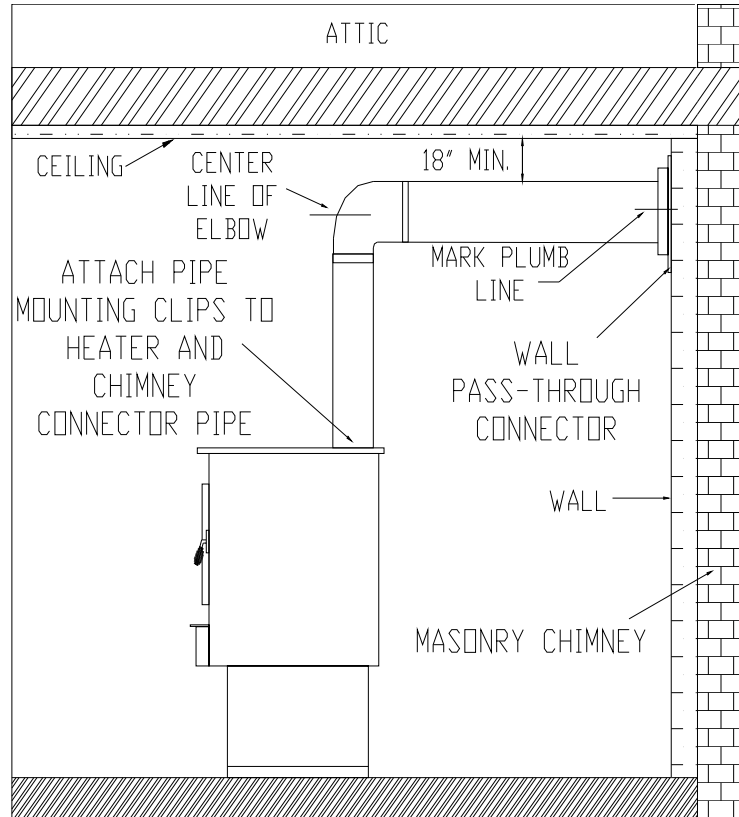

FIGURE 10
- Measure up so there will be at least 1/4" rise per foot of horizontal connector pipe, maintaining clearances to the ceiling as noted in Figure 10. This will give you the center of the hole for the chimney penetration.